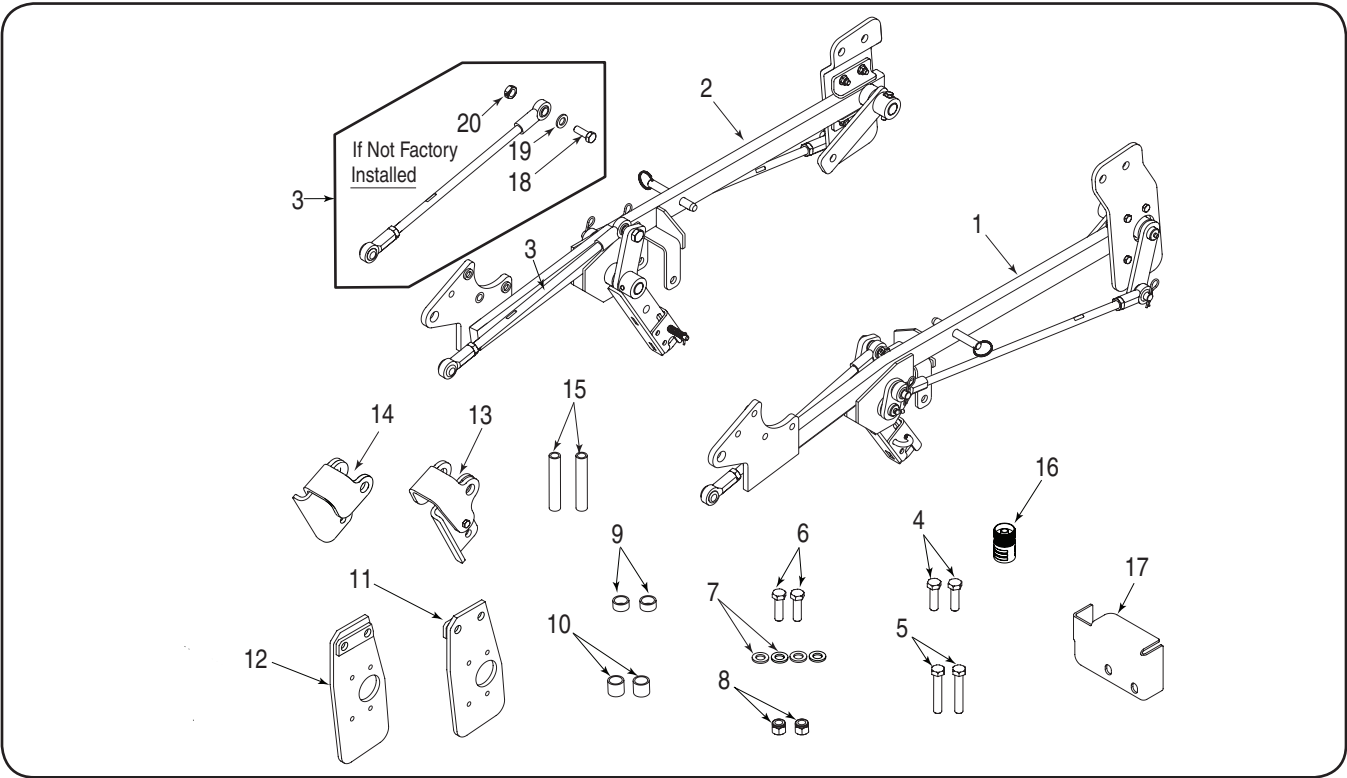
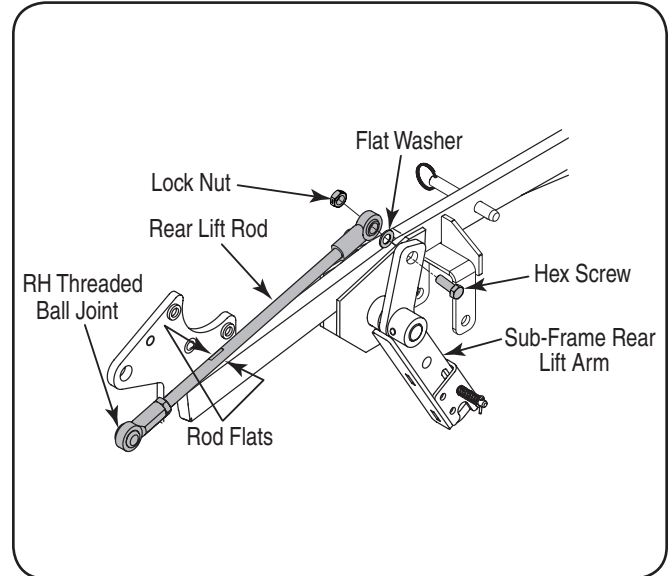

Figure 1
Figure 2
To uncrate the mower deck and all components, refer to Figure 1 and proceed as follows:
- Insert the hex screw (18) through the hole at the top of the sub-frame rear lift arm on either the RH or LH sub-frame assemblies (1 or 2, Figure 1). Slide the flat washer (19) onto the screw.
- Looking at either of the rear lift rod assemblies, locate the flattened areas on the rod near the RH threaded end of the rod. Position the rear lift rod assembly (3, See inset box of Figure 1) so that the flats of the rod, and RH threaded ball joint, are toward the rear of the sub-frame assembly. Refer to Figure 2.
- Position the LH threaded ball joint at the other end of the rear lift rod assembly between the top of the sub-frame rear lift arm and the sub-frame rail. See Figure 2.
- Insert the hex screw through the ball joint and fasten with the hex lock nut (20). Tighten the hex lock nut until almost snug against the ball joint. Do not overtighten. Refer to Figure 2.